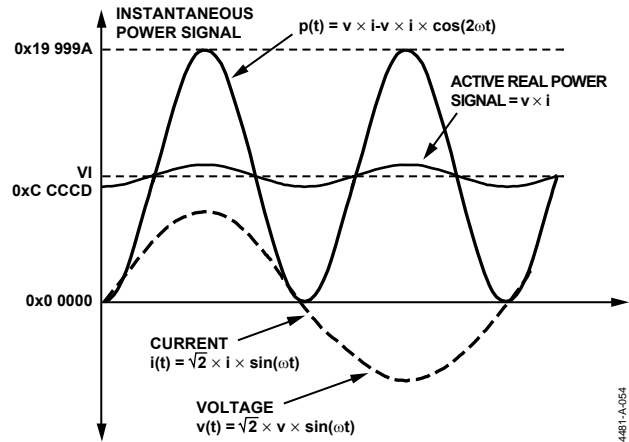

Figure 53. Active Power Calculation
Note that the active power is equal to the dc component of the instantaneous power signal $p(t)$ in Equation 8, i.e., VI . This is the relationship used to calculate active power in the ADE7763. The instantaneous power signal $p(t)$ is generated by multiplying the current and voltage signals. The dc component of the instantaneous power signal is then extracted by LPF2 (low-pass filter) to obtain the active power information. This process is illustrated in Figure 53.
As mentioned in the last section, the discrete time sample period (T) for the accumulation register is $1.1 \mu\text{s}$ ($4/\text{CLKIN}$). With full-scale sinusoidal signals on the analog inputs and the WGAIN register set to $0\text{x}000$, the average word value from each LPF2 is $0\text{x}C\text{CCCC}$ —see Figure 53. The maximum positive value that can be stored in the internal 49-bit register before it overflows is 2^{48} , or $0\text{x}\text{FFFF FFFF FFFF}$. The integration time under these conditions with $\text{WDIV} = 0$ is calculated as follows: